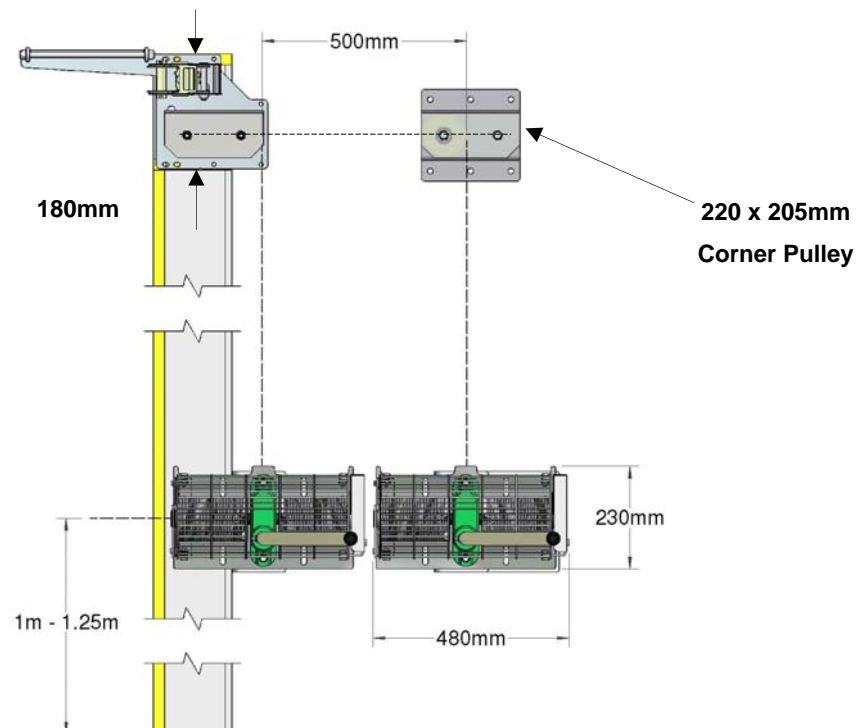

Figure 25
8.3 Additional Corner Pulley replacing Section 2.2: Referring to Figure 25 fasten Corner Pulley ensuring the distance between the lifting cables for the two doors is 500mm. Four M10 x 50 Bolts are supplied to secure Corner Pulley plates to a metal surface up to 25mm thick. (i.e. Plate, Channel, H-Beam, etc). Customer needs to supply own fastenings if securing to wood or concrete. Ensure the mounting surface can withstand the maximum door weight of 350kg.